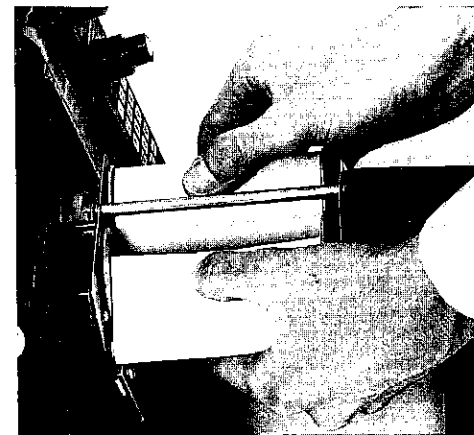

Figure 33
9. Hold the take-up spool, and turn the supply spool clockwise to put a small amount of tension on the paper. It should be snug against the platen. (See Figure 33.)